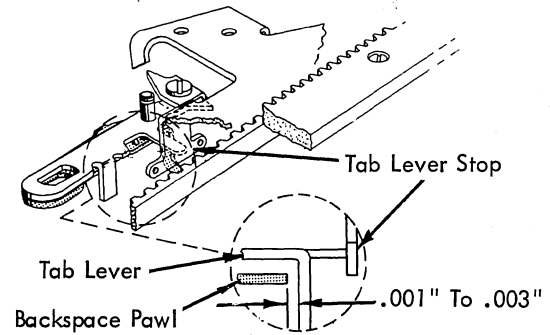

FIGURE 162. Tab Lever Stop
3. Tab Lever Stop (Fig. 162) - Form the stop on the escapement bracket to obtain $.001'' - .006''$ clearance between the vertical lug on the tab lever and the backspace pawl when the tab lever is at rest and the backspace pawl is fully seated in its rack. On printers without backspace, adjust for $.001''$ to $.007''$ between vertical lug on the tab lever and the escapement pawl.